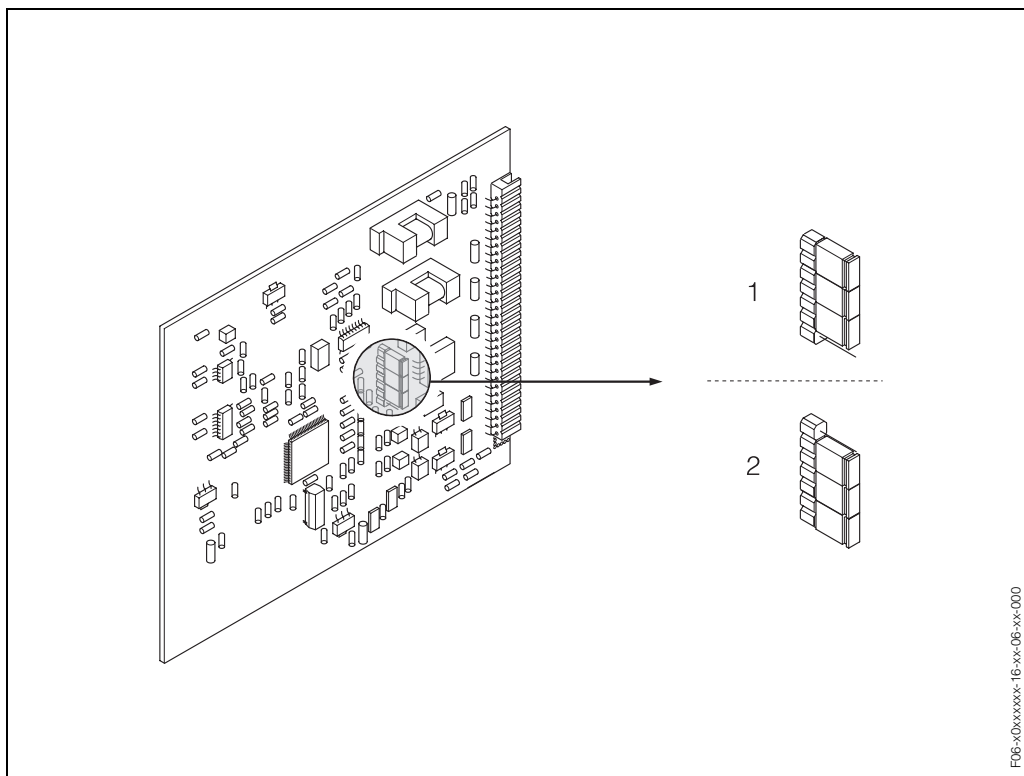

Fig. 45: Configuring the current output (I/O board)
3. Position the jumper according to Fig. 45.
Risk of destroying the measuring device. Set the jumpers exactly as shown in Fig. 45. Incorrectly set jumpers can cause overcurrents that would destroy either the measuring device or external devices connected to it.